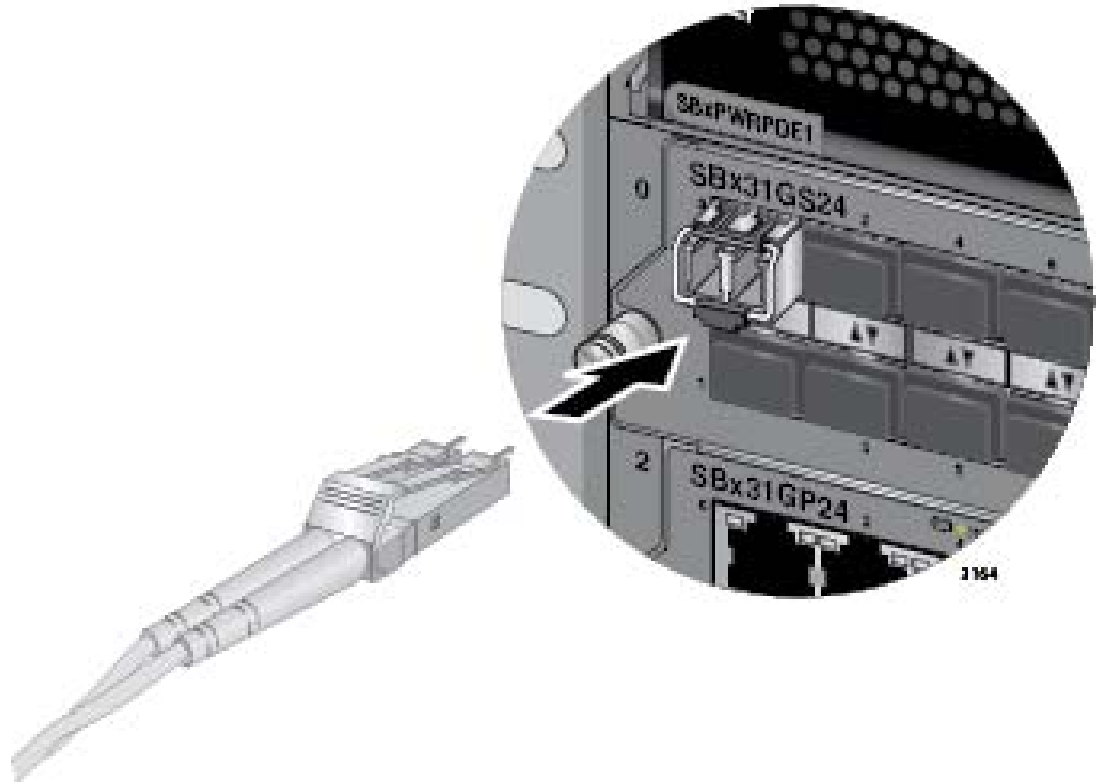

Figure 86. Attaching a Fiber Optic Cable to an SFP Transceiver in the AT-SBx31GS24 Line Card
6. Connect the fiber optic cable to the port on the transceiver, as shown in Figure 86 on page 149. The connector should snap into the port.